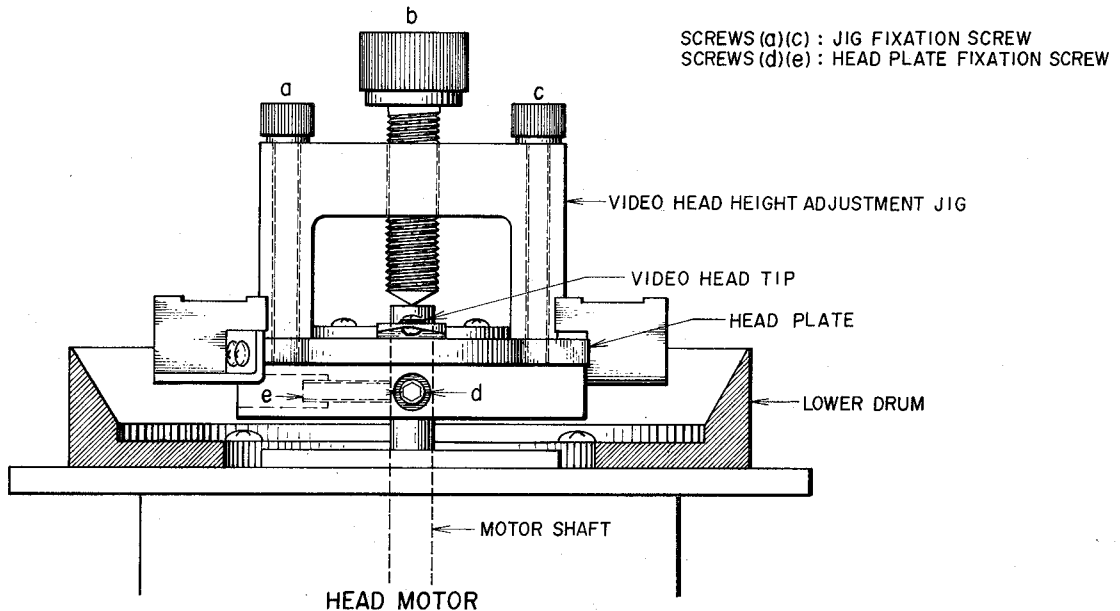

Fig. 7 Video Head Height Adjustment
- (a) Fit the head height adjustment jig to the head plate (made for angle and protrusion adjustments). As per Fig. 7 and 8, fit head plate to upper part of head motor (Screw (b) of height adjustment jig should be at lowest position).
plate and fix the head plate to motor shaft at position at which the lower end of the head tip is 10μ to 20μ below the center line of microscope B (Refer to Fig. 7).